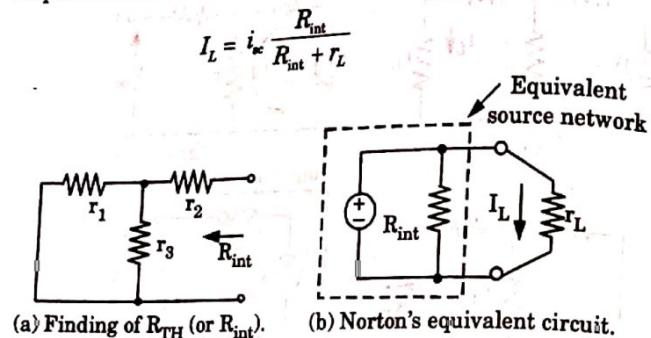

Fig. 1.18.3.
- Now, the short circuit is removed and the independent source is deactivated [Fig. 1.18.3(a)].
3. As per Norton's theorem, the equivalent circuit is drawn in Fig. 1.18.3(b).